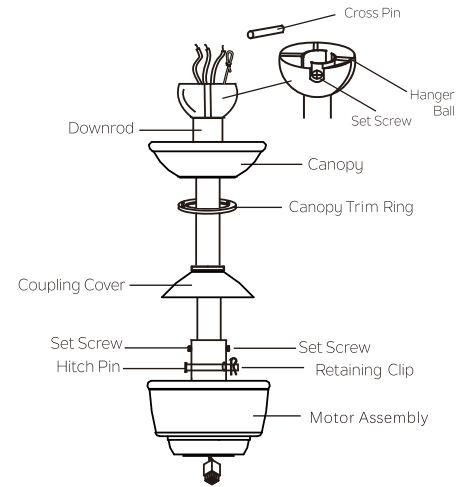

Fig. 9
Step 8. Slip the coupling cover, canopy trim ring and canopy onto the downrod. (Fig. 9)
Thread the hanger ball onto the downrod, insert the cross pin through the downrod and tighten. Now tighten the set screw. (Fig. 9)